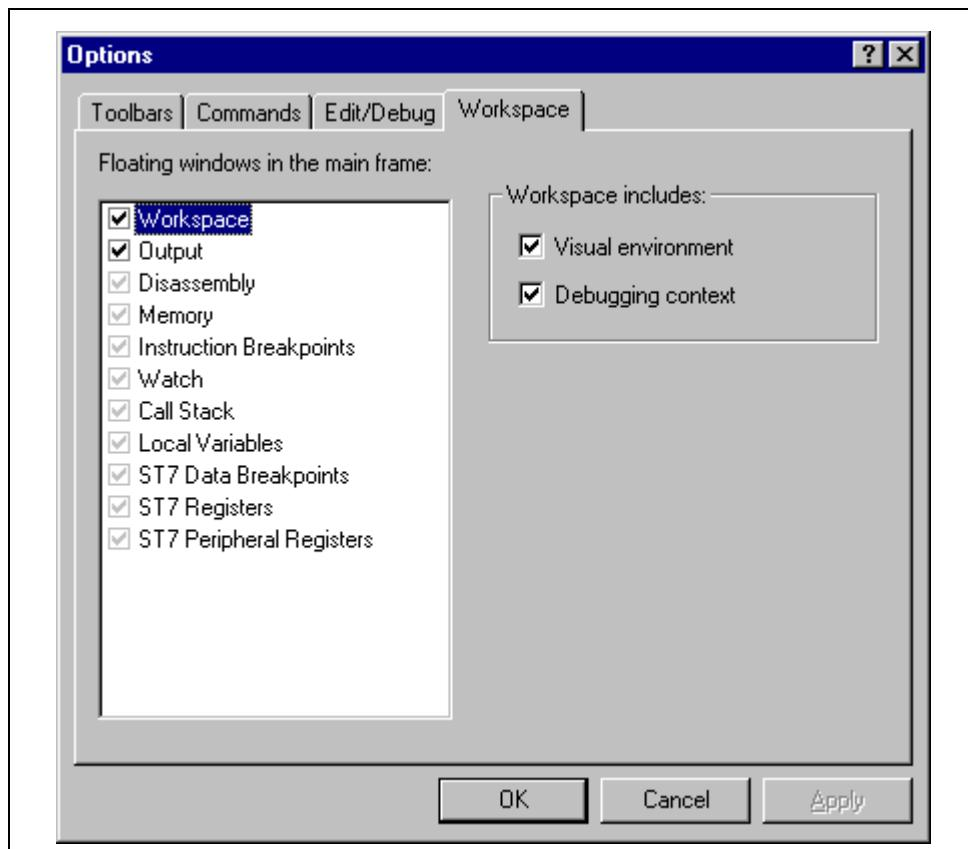

Figure 18: Options window
- 2 In the Options window that opens (see *Figure 18 on page 42*), select the **Workspace** tab.